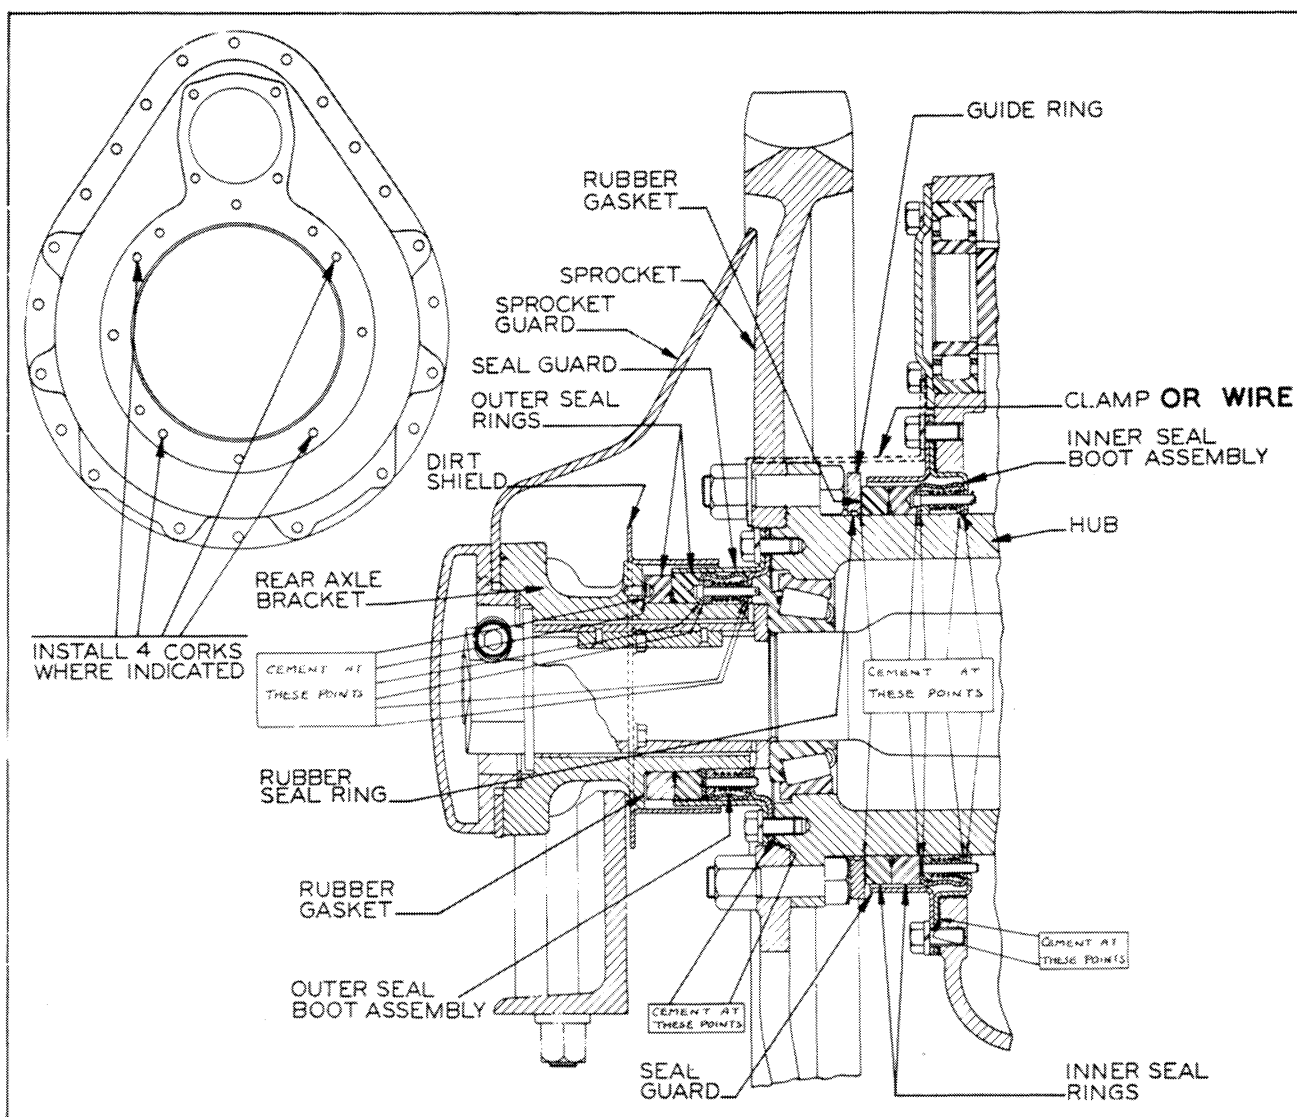

FIG. 3
2. Cement gasket to rear axle bracket. Fig. 3.